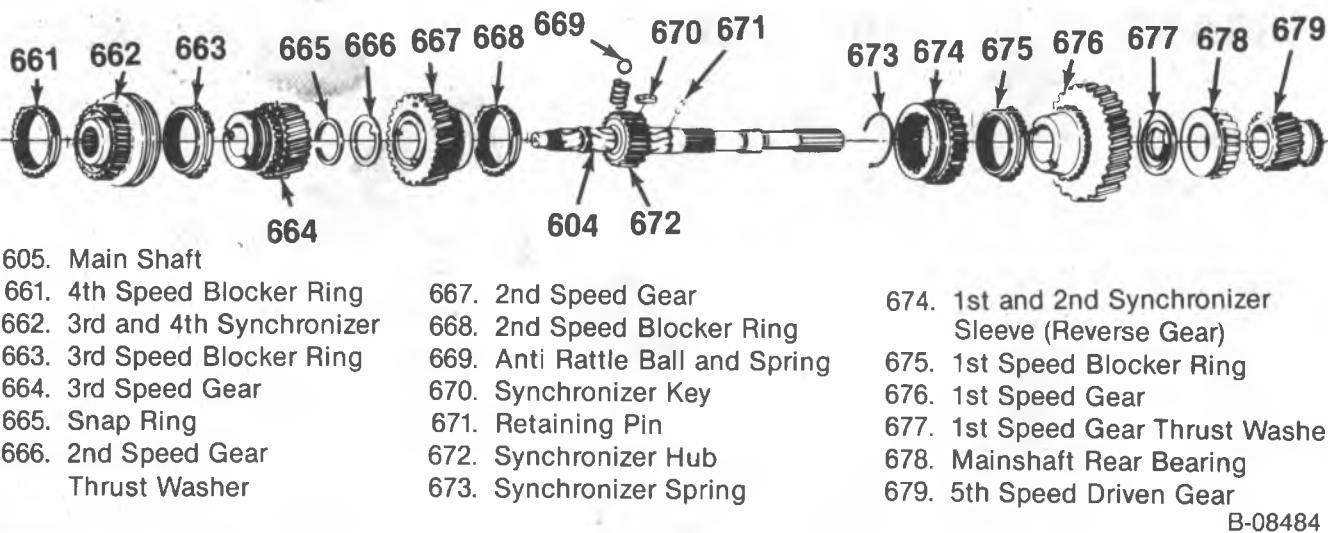

Figure 18—Mainshaft and Components
Disassemble (Figure 18)
Clean (Figure 18)
Inspect (Figure 18)
**Assemble (Figure 18)**